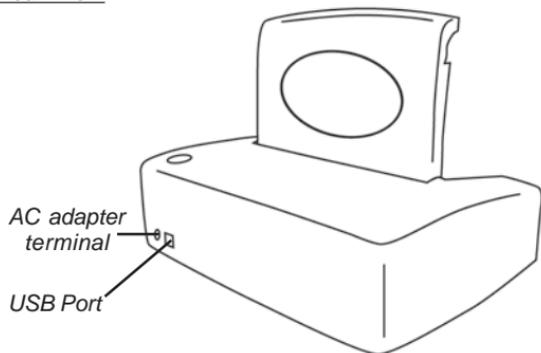

Figure 3
- Connect the supplied AC adapter to the printer's AC adapter terminal (Refer to Figure 3) for connection to power source.
- Connect the supplied USB cable to the USB port (Refer to Figure 3) for connection to your PC.